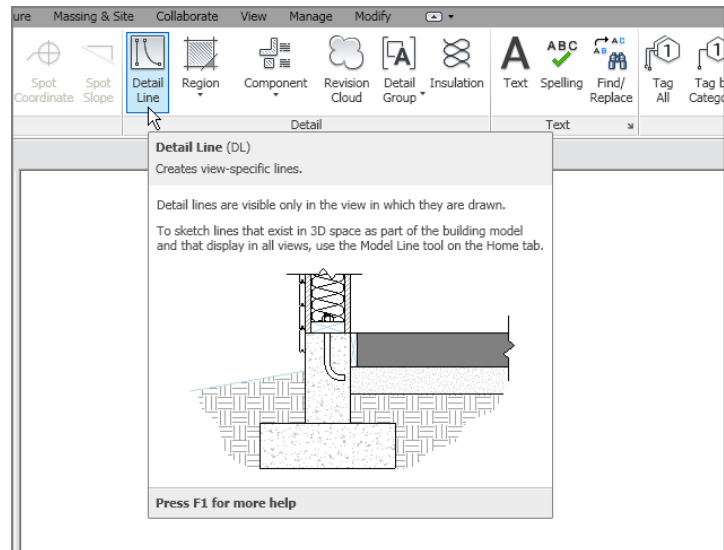

FIGURE 11.50: Click the Detail Line button on the Annotate tab.
1. On the Annotate tab, click the Detail Line button, as shown in Figure 11.50.